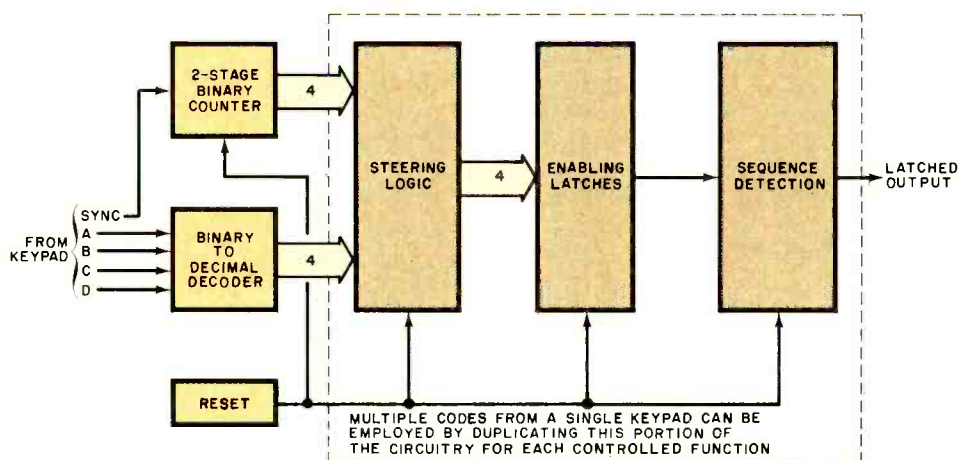

Fig. 9. Four-digit combination lock that works with only one selected set of input digits.
**Combination Lock.** The logic for a four-digit combination lock that can be operated only by someone who knows the code is shown in Fig. 9. This circuit can easily be expanded so that several functions can be derived from a single keypad. Appropriate interfacing must be